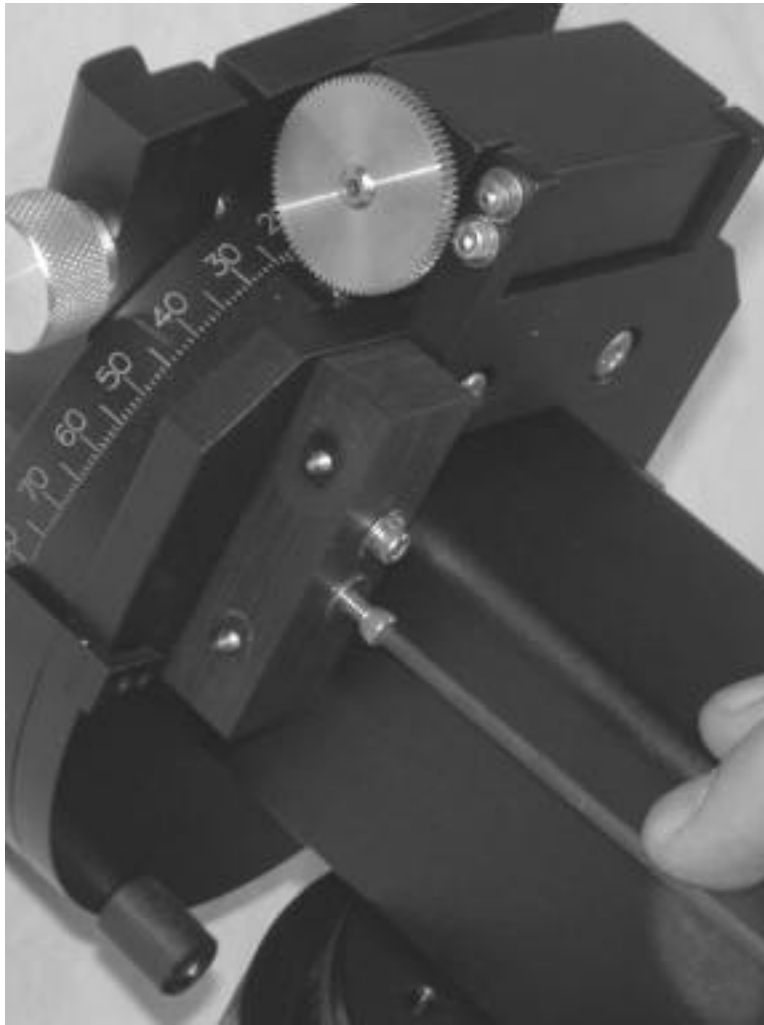

Figure 3
Step 5: Using the small Allen key, install the 80-tooth gear that is labeled “Dec” and is shipped in the “Worm Drive Spur Gears” bag. Be sure to install the gear with the hub towards the CI700 worm (as shown in the top of figure 3). Note: the setscrew should be tightened against the flat on the CI700 worm shaft.
Step 6: Using the large Allen key, remove the Adapter Block from the Dec Drive Unit by unscrewing the #8-32 cap screws. Set the cap screws aside. Using the medium Allen key, and the two #6-32 cap head screws and washers supplied in the Drive Unit bag, install the Adapter Block under the CI700’s Dec axis gear plate as shown in figure 3.
Endeavor to have the spur gears intersect "square" and co-planer and engage such that their teeth are in full contact. Some misalignment is tolerated. The screws shown in figure 4 allow for movement of the Drive Unit in/out, the screws shown in figure 3 allow for slight rotation of the Drive Unit and the 80-tooth spur gear's setscrews allow for movement of 80-tooth gear in/out on the worm shaft.
If binding or excessive friction is noticed, the worm is adjusted by loosening the cap screws (using medium Allen key) adjacent to the 80-tooth spur gear (top of figure3) and on the opposite end of the worm housing. This critical adjustment should be made very carefully and slowly.